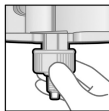

Fig. 4.1
5. Once the mixing tip is in the correct position (Fig. 3), push the Dynamix fixation ring over the mixing tip until it stops and turn it to the right (1/4 turn) until it is securely locked in place. (Figs. 4.1, 4.2, 5)